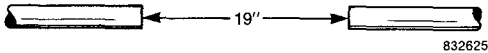

Fig. 125—Sheath opening.
- a. Sheath from through cable should be a **minimum 19"** (482 mm) opening. See Figure 125.